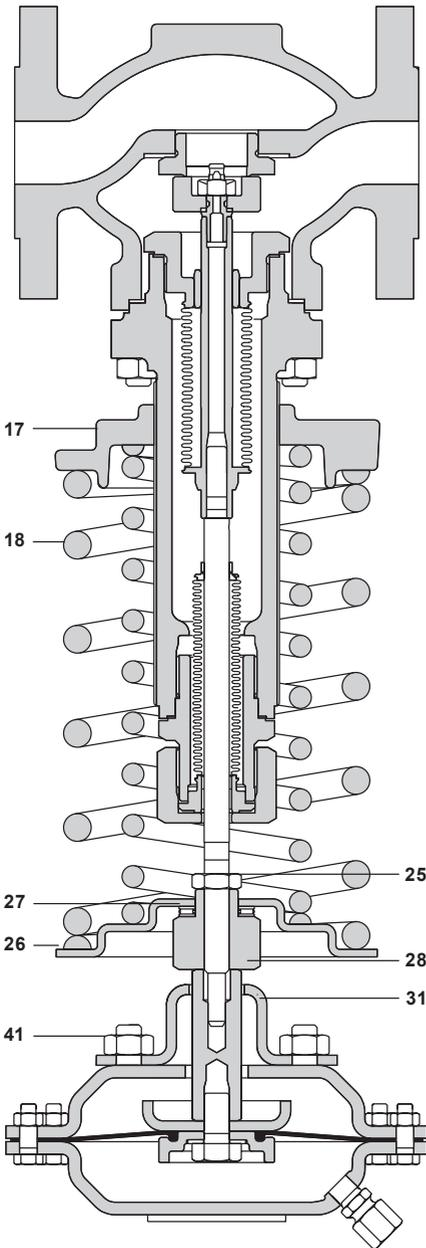

Fig. 8
- Refit the actuator assembly to the valve, tightening the actuator mounting nuts (41) to the recommended torque given in Section 4.2.
4.4.2 To renew control spring(s) (Figure 8 and 9):
- Rotate the spring adjuster (17) to reduce spring(s) (18) compression to zero.
- Disconnect the downstream pressure signal pipe. Unscrew the actuator mounting nuts (41) and remove the actuator from the valve.
- Unscrew the pillar nuts (16) and remove the mounting plate (31).
- Whilst retaining the setting nut (28) unscrew the lock-nut (25), remove the setting nut (28),
- lock-nut (25), needle bearing (27), spring plate (26), bearing plate (29) and spring(s) (18).
4.4.3 To renew sealing bellows assembly (Figure 8 and 9):